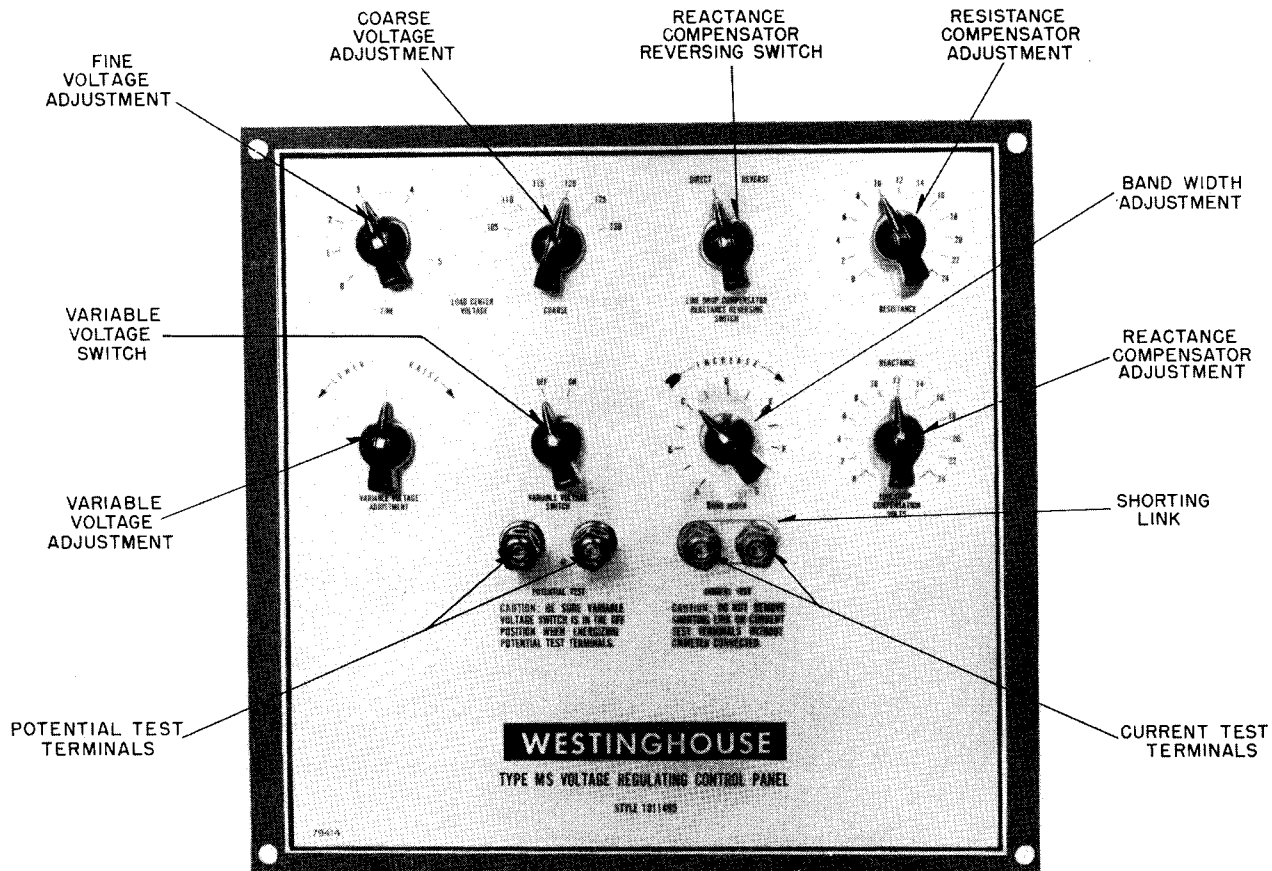
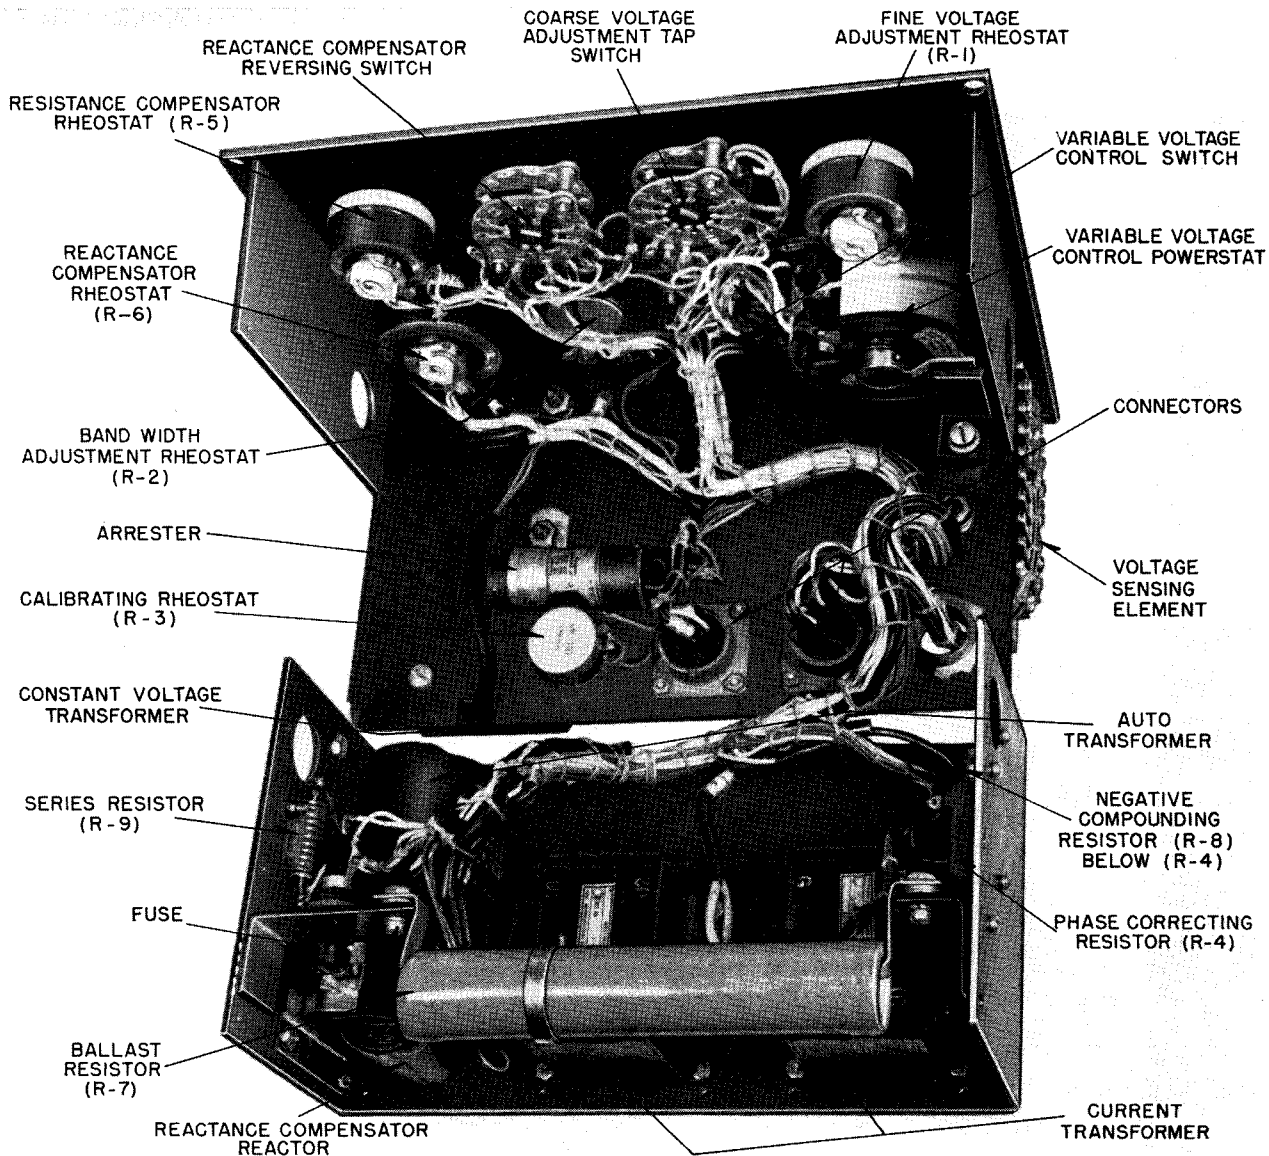

FIG. 1. Front View of MS Voltage Regulating Relay
FIG. 3. Rear View of MS Relay Panel
**Voltage Regulating Relay.** Detailed pictures of the MS voltage regulating relay are shown in FIGS. 1 and 3. The voltage sensing element containing the components for electrically measuring an unbalance in voltage is a sealed container mounted in back of the control panel as shown in FIG. 3. The components making up the sensing circuit are static devices consisting of a saturating transformer, rectifiers, a magnetic amplifier and resistors, to insure correct balance voltage under all conditions. A resistor (R3) for calibrating the balance voltage is mounted on the back of the MS panel.
line drop compensation are mounted on the MS panel as shown in FIGS. 1 and 3. The panel is designed for use as a unit in the complete tap changer control assembly.
element. Reference FIG. 11. External connections from the MS voltage regulating relay are made through two AN connectors as shown in FIG. 3. Current and potential test terminals are conveniently located on the front of the panel.